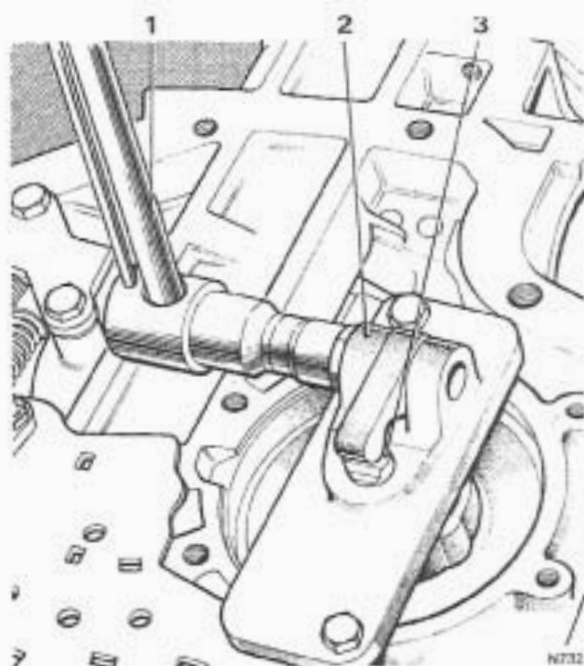

FIG. T210 SELECTING THE BAND APPLY PIN
1. Fit the band apply pin selector gauge RH 7957 (J-21370-5) onto the bottom face of the transmission casing. The gauge must fit over the rear servo bore with the hexagonal nut on the side of the gauge facing the parking brake linkage, and the smaller diameter end of the gauge pin RH 7957 (J-21370-5) in the servo pin bore (see Fig. T210).
6. To determine the correct size pin to use, apply 25 lb. ft. (3.46 kg. m.) to the hexagonal nut on the side of the gauge (see Fig. T210). This will cause the lever on top of the gauge to depress the stepped gauge pin into the servo pin bore, simulating the actual operation of the servo.